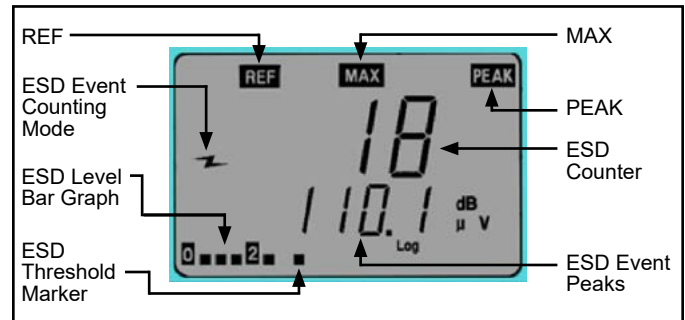

Figure 10. ESD Event channel
1. Toggle the joystick until the ESD Event channel is displayed (see Figure 10).